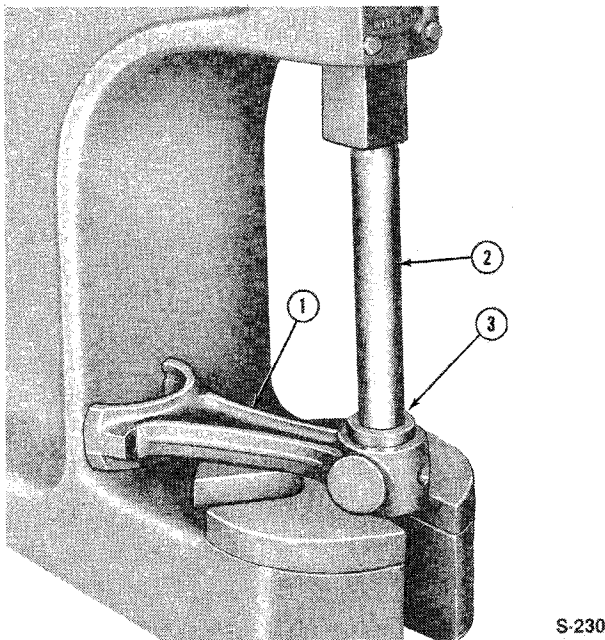

Figure 49
5. Measure the outside diameter of the piston pin and the inside diameter of the connecting rod bushing. If the clearance is not within the specified limits, see "Specifications"—Chapter 3. Press out the connecting rod bushing and install a new bushing using tool No. 9514 with a suitable adapter, Figure 49.